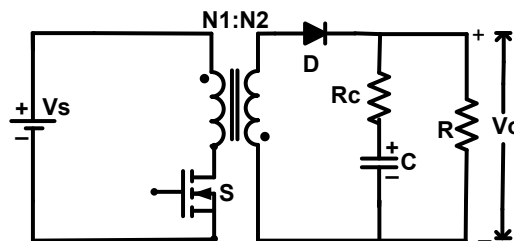

Fig.15
18. A flyback converter operating in DCM is shown in Fig.15. It delivers a voltage of 15V to the load of  $R=10 \Omega$ .  $V_s=48\text{V}$ . The secondary winding conducts for one half of the OFF time of the active switch (S). The switching frequency is 20KHz. Turns ratio  $N_1:N_2= 1:0.5$ .